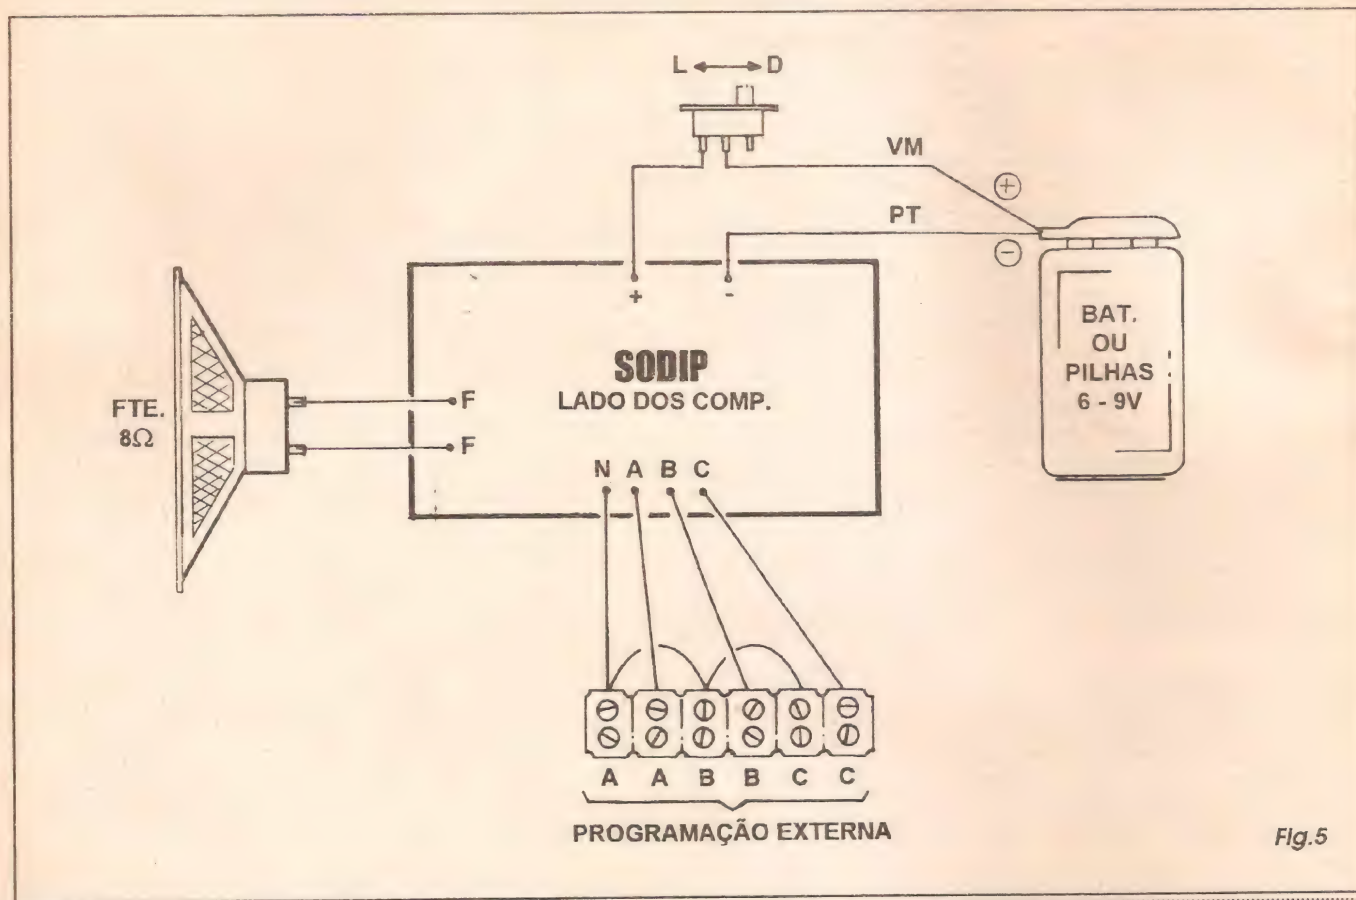

Fig.5
- FIG. 5 - CONEXÕES EXTERNAS À PLACA